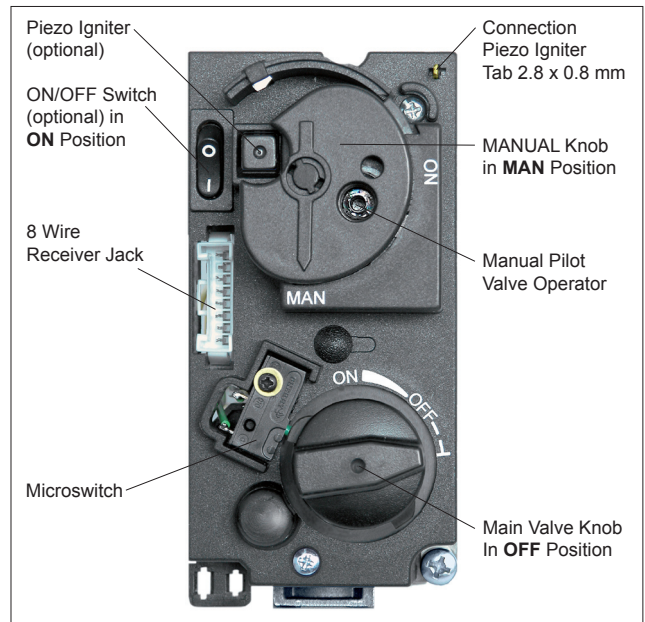

Figure 15: Combination Control, Cover
## MANUAL OPERATION (see figures 15, 16, pg. 5)
5. Wait five (5) minutes to clear out any gas. Verify that no gas is in the area around the appliance, including near the floor. **If you detect gas STOP!** Follow "A" in the safety information on page 1. If no gas is present, proceed to step 6.
8. Fully push down manual pilot valve operator and hold in, to start pilot gas flow (see figure 15).
Change the ignition cable from the receiver to the valve (see figures 15 and 17). Use the push piezo igniter to ignite. If pilot does not stay lit, wait five (5) minutes and repeat.